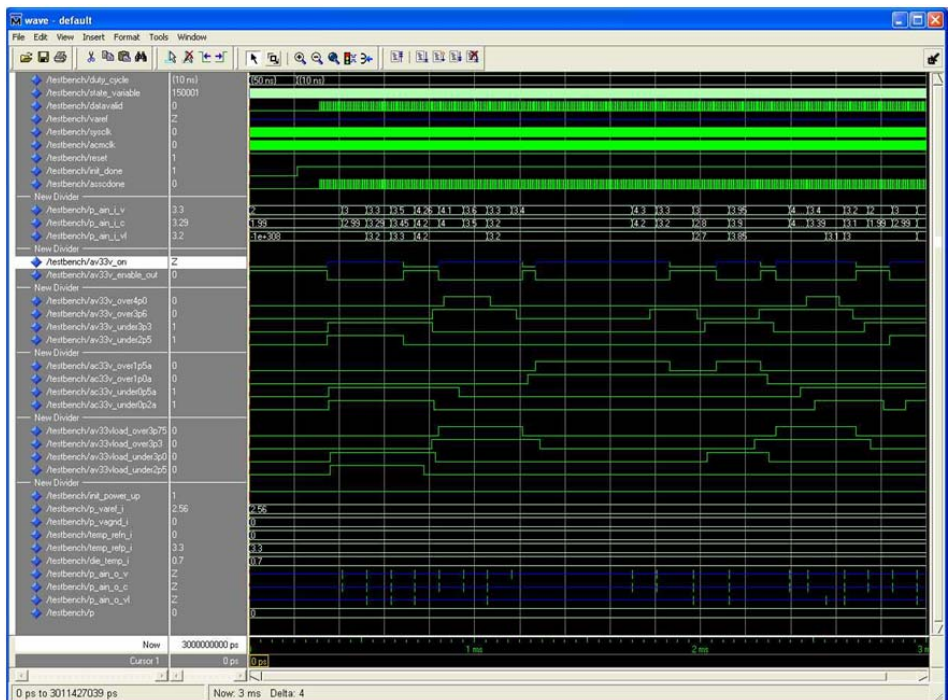

Figure 1-19. RTL Simulation Result
3. Verify the threshold flags with respect to the analog input signals in the testbench file (Figure 1-19 on page 29).